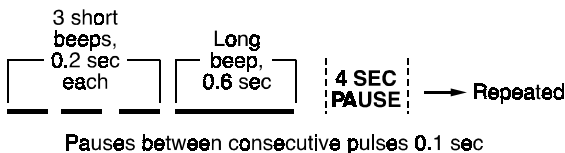

Figure 5. Predialing Warning
- Predialing warning - a repetitive monotone sequence comprising 3 short tones followed by a long tone (see Fig. 5).